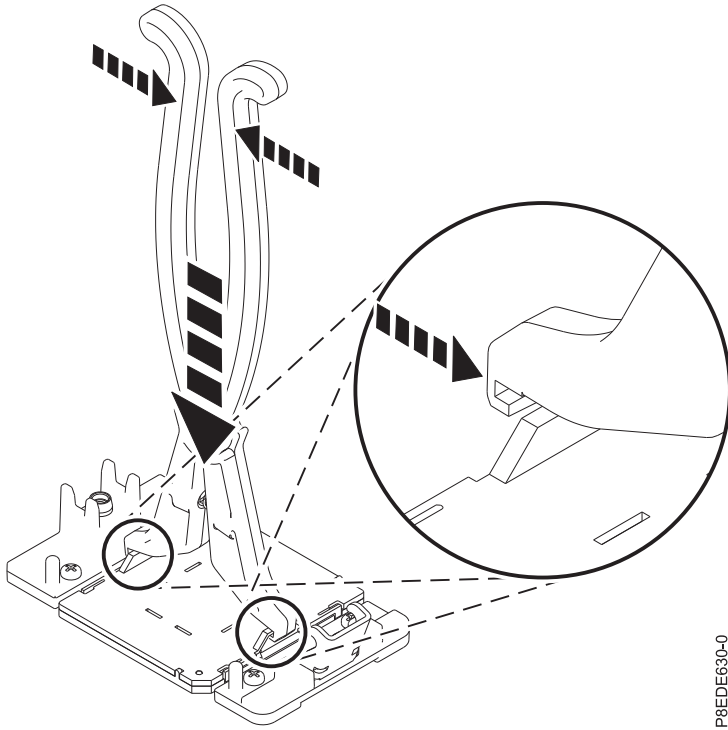

Figure 122. Removing the system processor socket cover
- a. Grasp the socket cover tabs with the supplied cover removal tool (part number 00FX605). Squeeze the removal tool handles. Then, lift the cover straight up, as shown in Figure 122 on page 124.